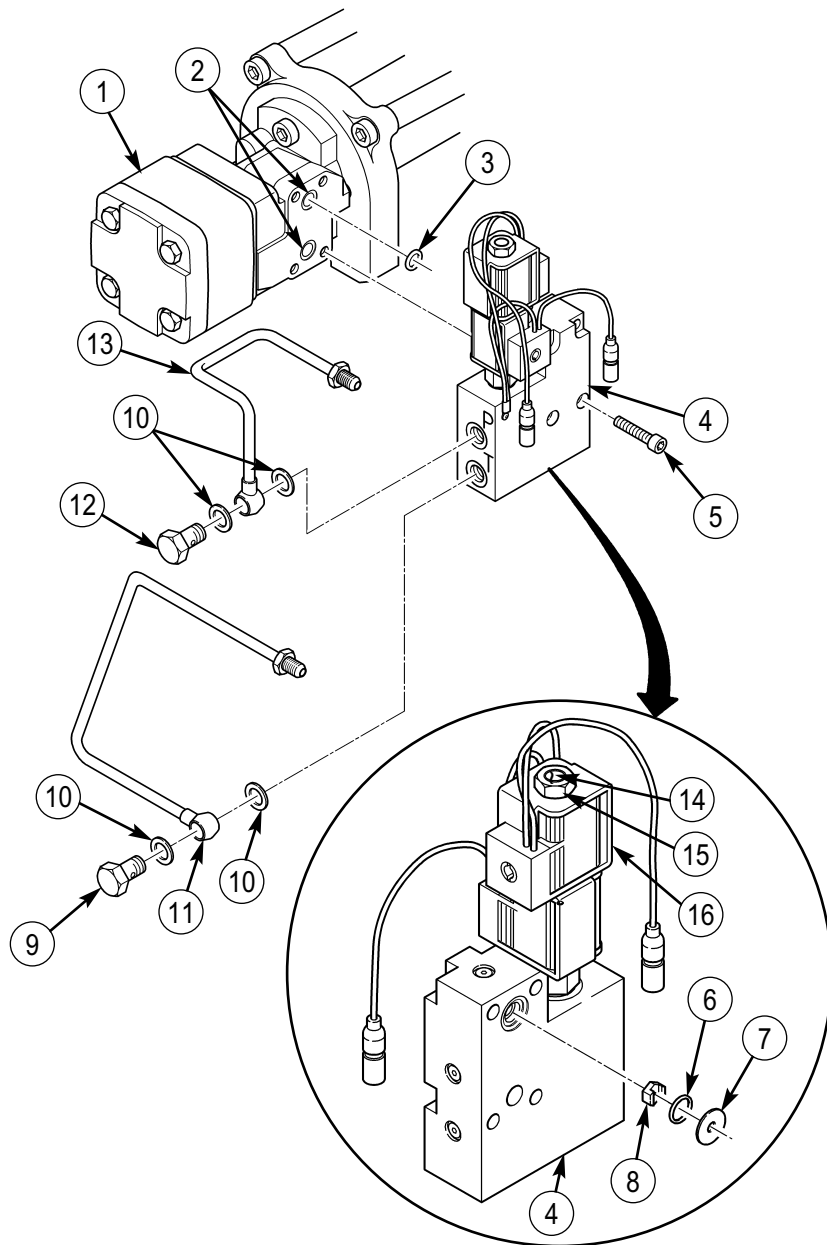

Figure 2
3. Remove upper banjo tube bolt (12), two washers (10), and inlet port banjo tube (13) from valve body (4) as shown in figure 2. Discard washers (10).
4. Remove lower banjo tube bolt (9), two washers (10), and outlet port banjo tube (11) from valve body (4) as shown in figure 2. Discard washers (10).
7. Remove four bolts (5) and valve body (4) from hydraulic motor (1) as shown in figure 2.
8. Remove two O-rings (3) from ports (2) on hydraulic motor (1) as shown in figure 2. Discard O-rings (3).
9. Remove restrictor (8), restrictor washer (7), and O-ring (6) from valve body (4) as shown in figure 2. Discard O-ring (6).
10. Remove jamnut (15) from solenoid valve (14) and two solenoid coils (16) from valve body (4) as shown in figure 2.
23. Apply hydraulic fluid to two new O-rings (3) and install in inlet and outlet ports (2) of motor (1) as shown in figure 2.
25. Apply adhesive to four screws (5) and secure valve body (4) loosely to hydraulic motor (1) with screws (5). Remove rubber band being careful not to allow restrictor to fall out of position in valve body as shown in figure 2. Tighten screws (5) to 18 lb-ft.
26. Install solenoid coils (16) on solenoid valve (14) and secure with jamnut (15) as shown in figure 2. Tighten jamnut (15) to 36 lb-in.
28. Secure banjo tube (13) to port P on valve body (4) with two new washers (10) and banjo tube bolt (12) as shown in figure 2. Do not tighten.
29. Secure banjo tube (11) to port T on valve body (4) with two new washers (10) and banjo tube bolt (9) as shown in figure 2. Do not tighten.